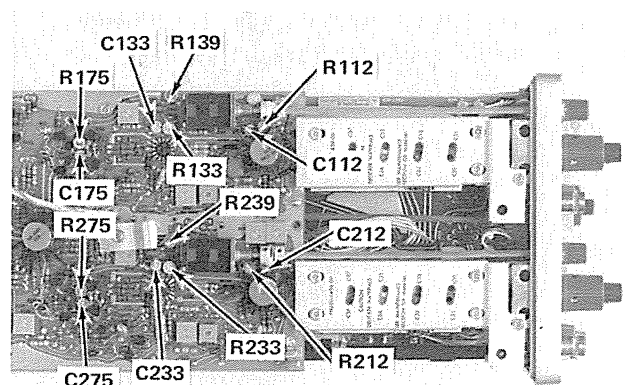

Fig. 5-17. Location of high-frequency compensation adjustments.
e. ADJUST—R139 and R475 (see Fig. 5-17 & 5-18) for the best flat-top waveform.
- m. ADJUST—R239, R475, C471, and C477 (see Fig. 5-17 & 5-18), for the best flat-top waveform.
- p. Connect the output of the Fast-Rise High-Amplitude Pulse Generator (Type 109) to the CH 1 input via a 50 Ω 5 ns GR cable, (2) X10 GR attenuators, X5 GR attenuator, a 50 Ω GR termination, and a GR-to-BNC adapter.
- t. ADJUST—C175, R175, C133, R133, C112, and R112 (see Fig. 5-17), with a low-capacitance screwdriver, for the best flat-top waveform.
- y. ADJUST—C275, R275, C233, R233, C212, and R212 (see Fig. 5-17), with a low-capacitance screwdriver, for the best flat-top waveform.